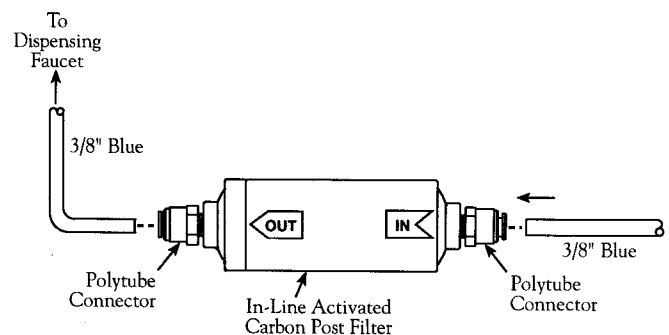

Figure 5
4. Firmly reconnect the polytubes to the new Post Filter. (Refer to Fig. 5 above.)